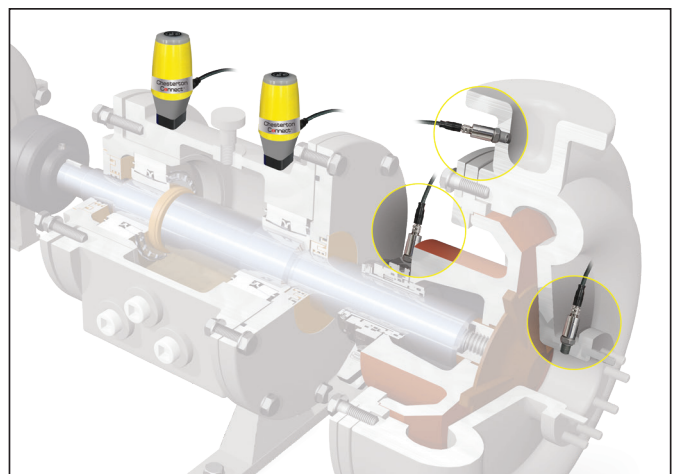

Figure 4
3. The base of the unit is magnetic. Install the unit on the surface where vibration and surface temperature will be measured\*\*\* (see figure 4 for preferred sensor location on pumps). Take care in selecting a safe stationary location to mount the unit. Ensure the operating temperatures do not exceed the rated temperature of the body 85°C (185°F).